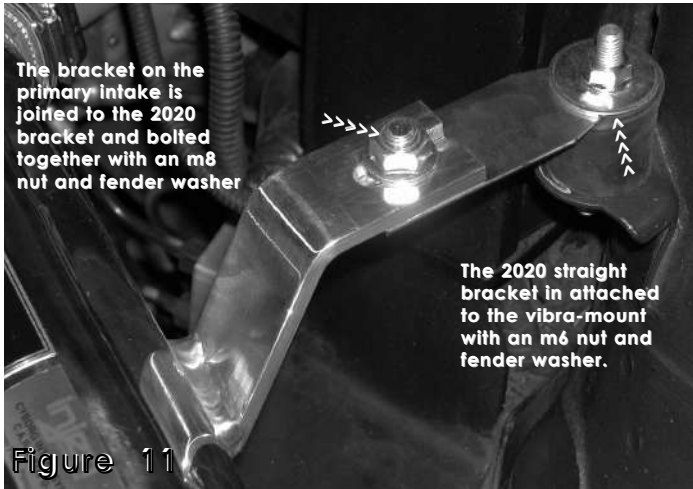

Figure 11
8. Take the 2020 straight bracket, m6 nut and fender washer and attach it to the vibra-mount. (See fig. 11)